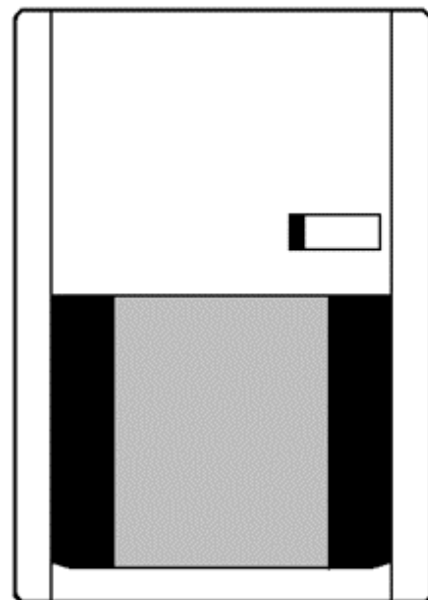

Figure 9.6 - PIR Masking Vertical Example
- 6) Optional: if the PIR is extending too far outward (to the sides), place stripes of tape vertically on the sides of the PIR lens (see figure 9.6). This will cover all outward beams producing a narrower coverage area.